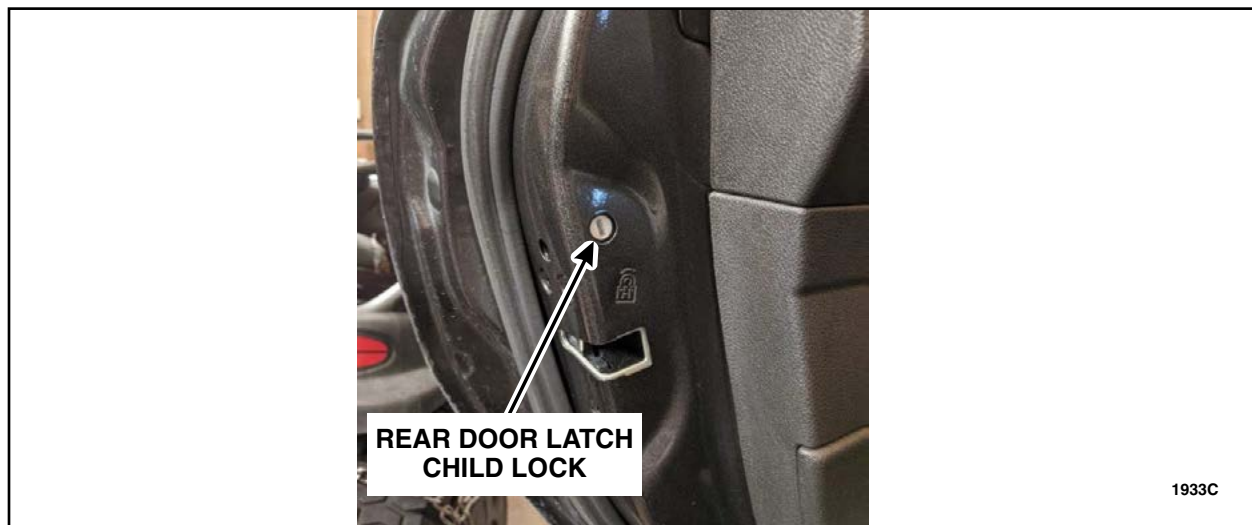

FIGURE 7
3. Verify the presence of a child lock in both rear doors. See Figure 7.